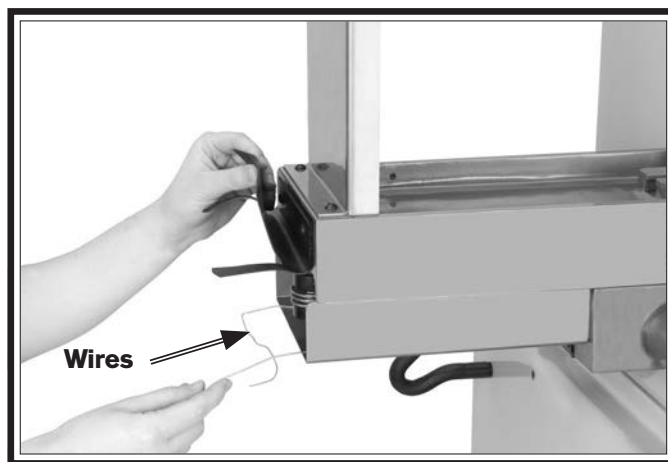

Figure 50. Neoprene shipping seat wires.
6. Have an assistant carefully lift up on the table so it is raised approximately an inch or two, use the wires to insert each neoprene seat into its respective way (see **Figures 50–51**), then carefully lower the table onto the ball bearings. The table must be resting on the seats at all four corners.